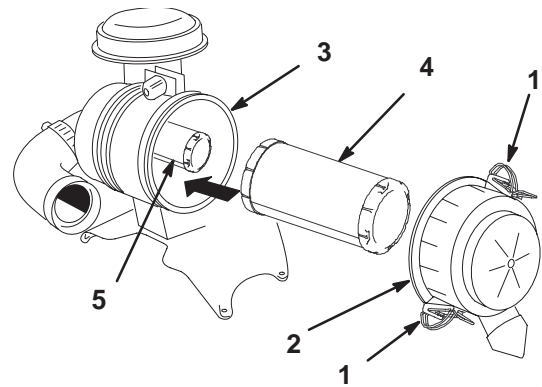

Figure 35
2. Release the latches on the air cleaner and pull the air cleaner cover off of the air cleaner body (Fig. 35).
4. Gently slide the primary filter out of the air cleaner body (Fig. 35). Avoid knocking the filter into the side of the body. Do not remove the safety filter, unless you intend to replace it as well.